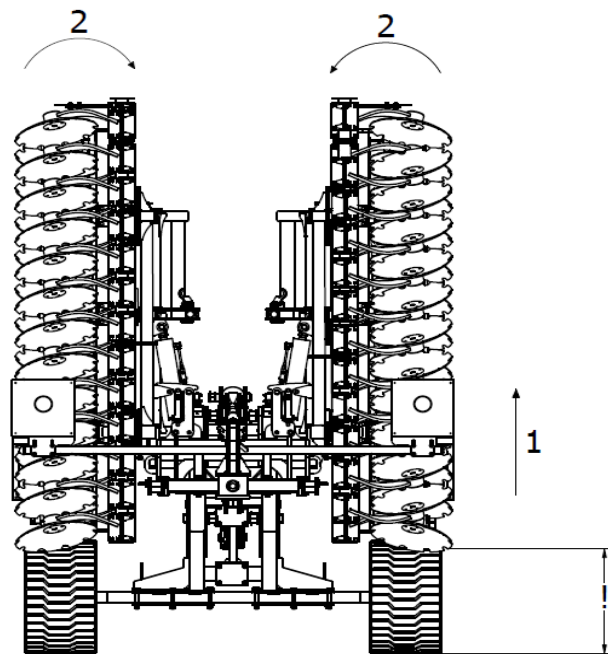

Figure 10 Machine opening sequence: 1- lift the machine up to its maximum, 2- fold the machine wings into the "closed" position.
1. First of all, the machine must be raised as much as possible to enable it to be folded correctly, avoiding the risk of the folding arms catching on the ground during movement (fig. 10).
2. The next step is to hydraulically fold the wings of the machine into the 'closed' position, the purpose of which is to ensure that the wing lock mechanism unlocks and allows the machine arms to be opened at a later stage. This operation is necessary every time the arms of the unit are opened (fig. 10).